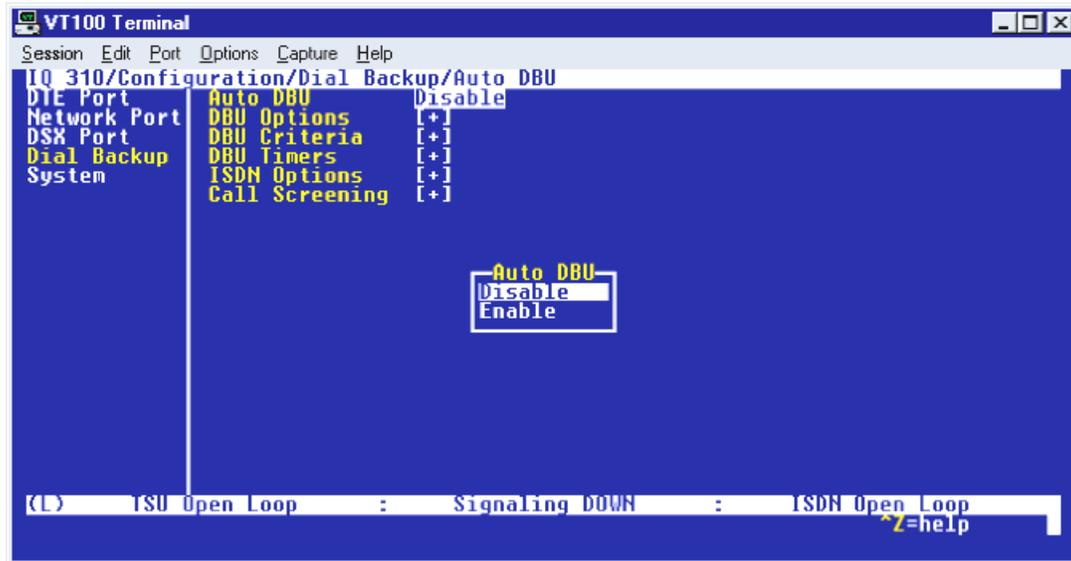

Figure 4. Auto DBU Selections
3. Use the right arrow key to select **AUTO DBU**; press **<ENTER>**. The screen shown in Figure 4 will appear.